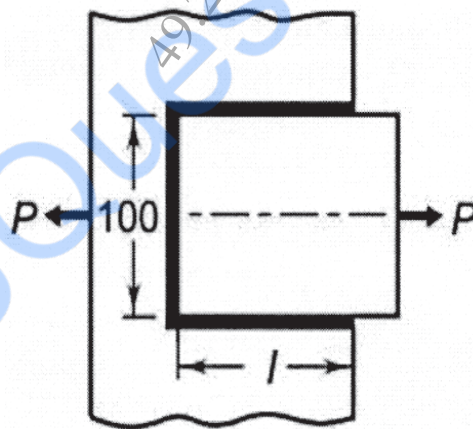

Fig. 3
- b) A steel plate, 100mm wide and 10 mm thick, is joined with another steel plate by means of single transverse and double parallel fillet welds, as shown in Fig3. The strength of the welded joint should be equal to the strength of the plates to be joined. The permissible tensile and shear stresses for the weld material and the plates are 70 and 50 N/mm^2 respectively. Find the length of each parallel fillet weld. Assume the tensile force acting on the plates as static. [12]